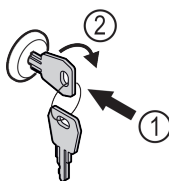

Fig. 181
- ▶ Insert the key. Fig. 181 (1)
- ▶ Turn the key clockwise by 90°. Fig. 181 (2)